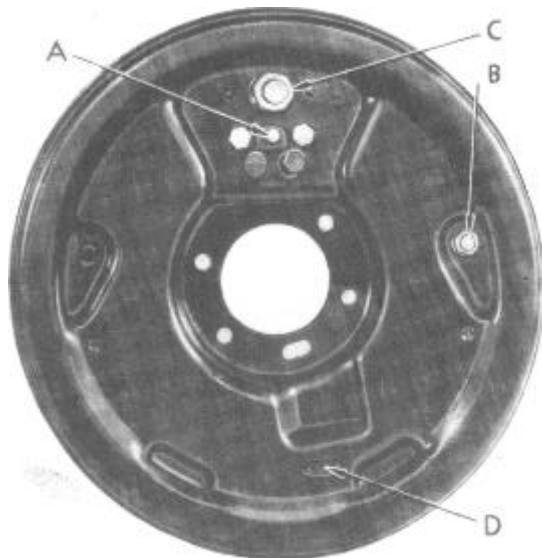
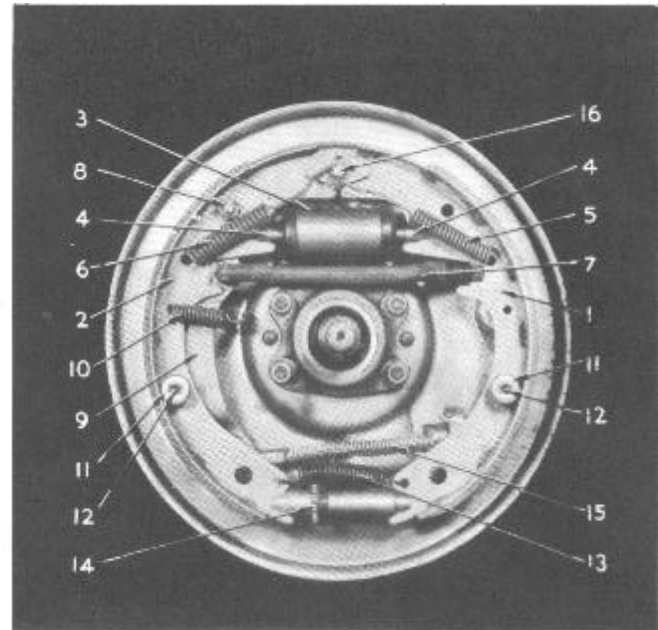

Figure 11--Brake Backing Plate
Figure 13--Single Anchor Brake-Rear Models 41, 43, 44, 45, 47, 48 and all Commercial
6. Loosen eccentric lock nut (B), Figure 11
13. Back off adjusting screws through slot (D), Figure 11, until brake drum is just free of a lining drag.
2. Remove retracting springs for both primary shoe and secondary shoe (5 and 6) and anchor bracket spring (10) (Figure 13).
3. Remove brake shoe hold down spring cups (11) springs and spring pins (12).
4. Remove shoes (1) and (2).
5. Remove brake adjusting screw spring (13) and screw (14).
6. Remove shoe to cylinder links (4) and shoe cable lever to shoe pin (8).
7. Disconnect rear brake cable (15) shoe cable lever (9) shoe cable lever strut (7).
8. Remove eccentric by taking off nut (B), Figure 11.